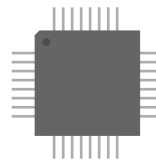

Figure P10.9 Cooling of a computer processor.
- 10-9.** The computer processor shown in Fig. P10.9 operates at a temperature of 140°F. Upon shut down, the processor begins to cool in a room with an ambient temperature of 65°F and an effective heat transfer coefficient of $k = 0.065$ min⁻¹. The temperature of the processor $T(t)$ as a function of time satisfies the following first-order differential equation: